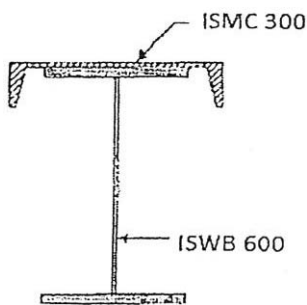

Figure Q.15 (a)
15. a) A gantry girder section is shown in Figure Q.15 (a). The girder is subjected to the following moments.